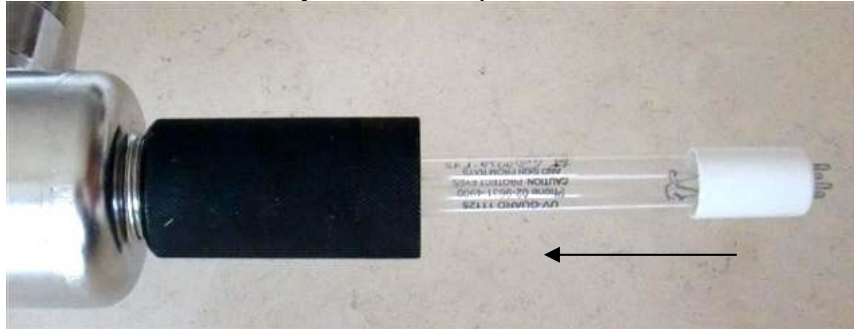

Fig. 5
- Take the sealing nut with the O ring in place and screw it on to the chamber over the top of the open end of the quartz thimble that is protruding from the chamber. During this process the O ring should slip over the open end of the quartz thimble. It is important to ensure the O ring does not become pinched as it slips over the end of the quartz as this may break the quartz. You may look through the end of the sealing nut with a light source to check or you could check with your finger inside the sealing nut, as it is being screwed on. (Fig. 5)